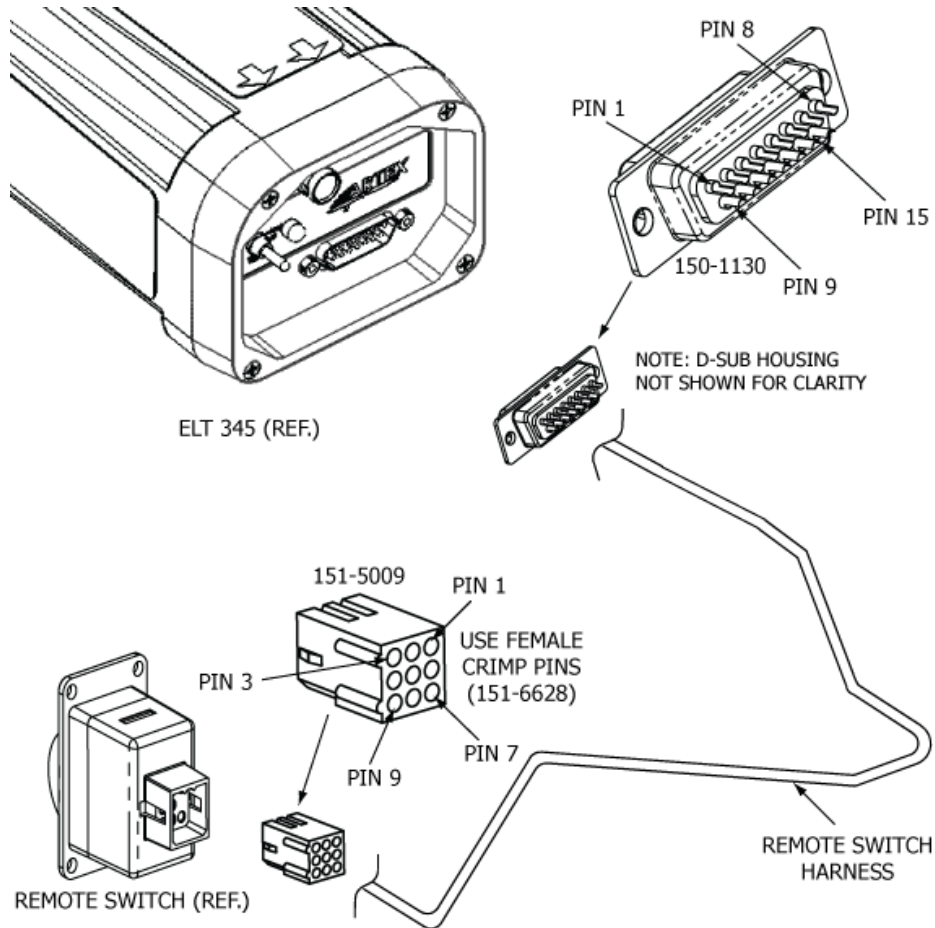

Figure 19 Remote Switch Harness Arrangement
- 1) See Figure 19 Remote Switch Harness Arrangement.